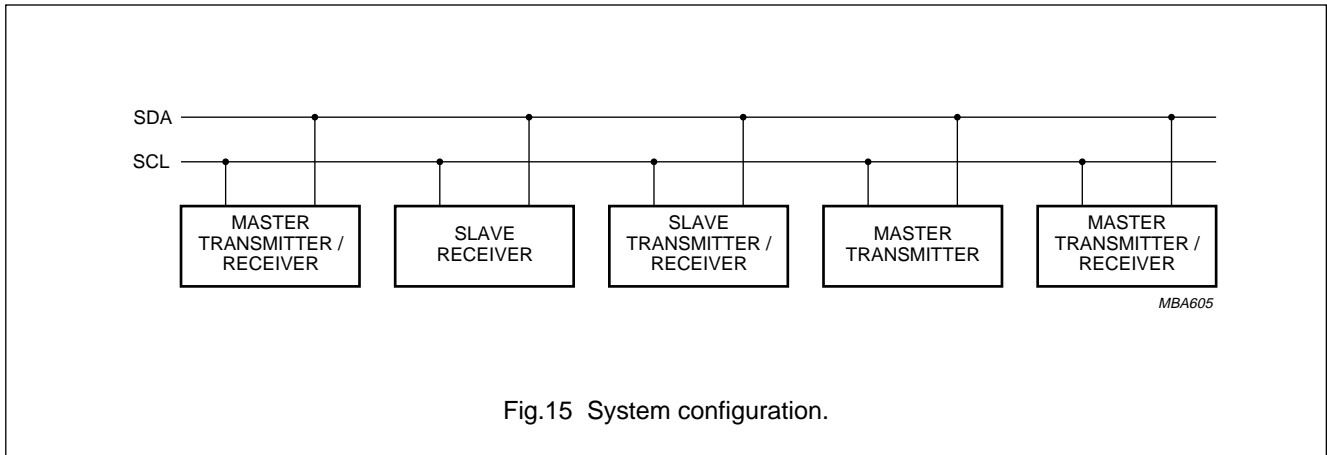

Fig.15 System configuration.
8.3 System configuration (see Fig.15)